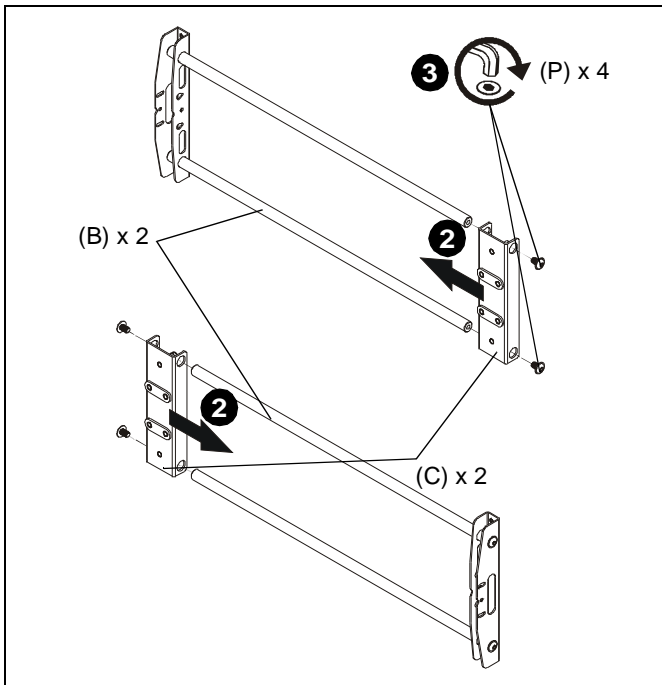

Figure 8
2. Install two clamp brackets (C) onto two rail extensions (B). (See Figure 8)
3. Install four 5/16-18 x 1/2" button head flange screws (P) to ends of rail extensions (B). (See Figure 8)